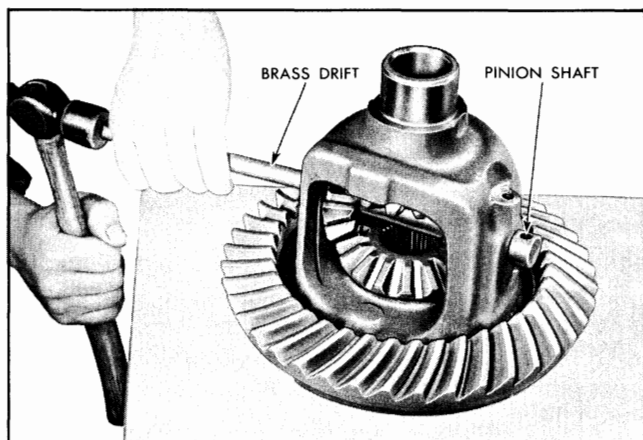

Fig. 4-52 Removing Differential Case Pinion Shaft
9. Drive pinion shaft out of case, using brass drift (Fig. 4-52).